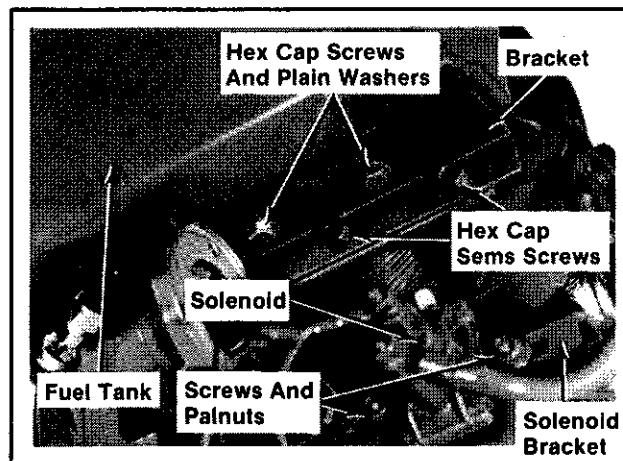

Figure 12A-34. Installing Fuel Tank And Solenoid.
3. Install the fuel tank with bracket, truss head screws, and hex cap sems screws. Refer to Figure 12A-35. Leave the screws loose until all pieces are in position.